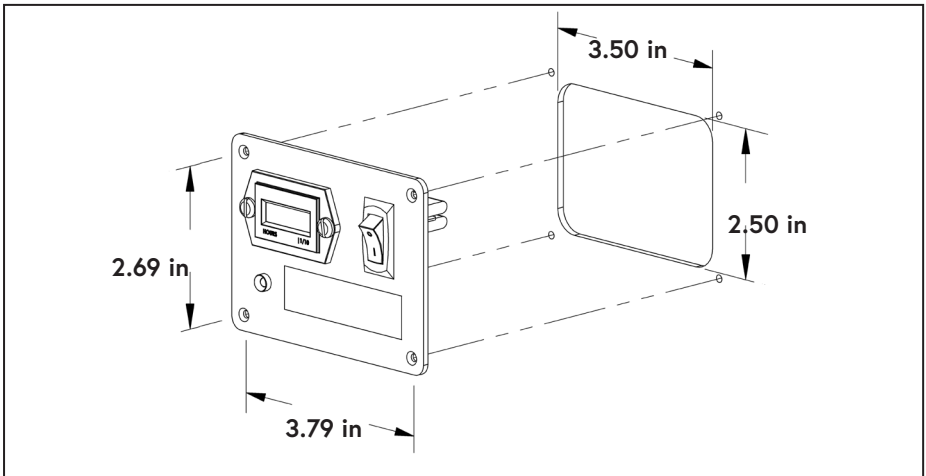

Figure 66 — Interface Panel mounting dimensions
- Install the Interface Panel in a suitable location (Figure 66).